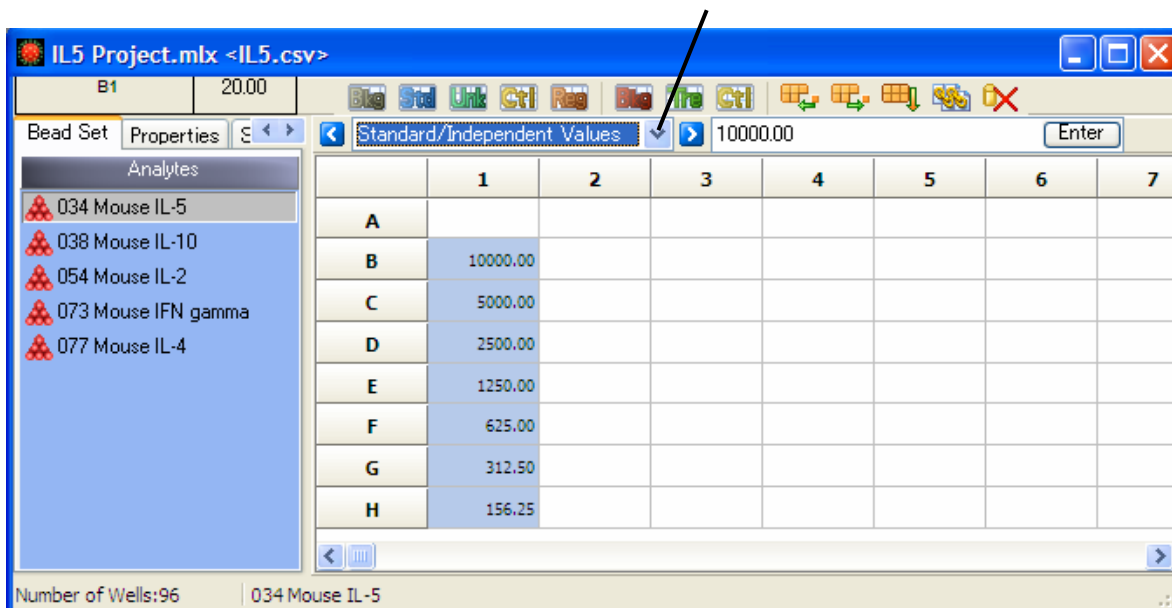

Figure 5.5 Standard concentrations for the selected analyte
10. Select Standard/Independent Values from the data type drop-down list to view the analyte concentrations for the selected standards (Figure 5.5).